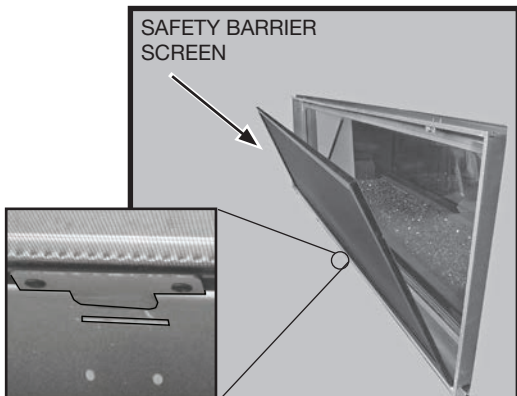

Figure 4: Safety barrier screen.
1. Remove safety barrier screen (Figure 4) by prying the top portion of the screen toward you, then lift the screen from its tabs (inset) located at the base of the window frame.